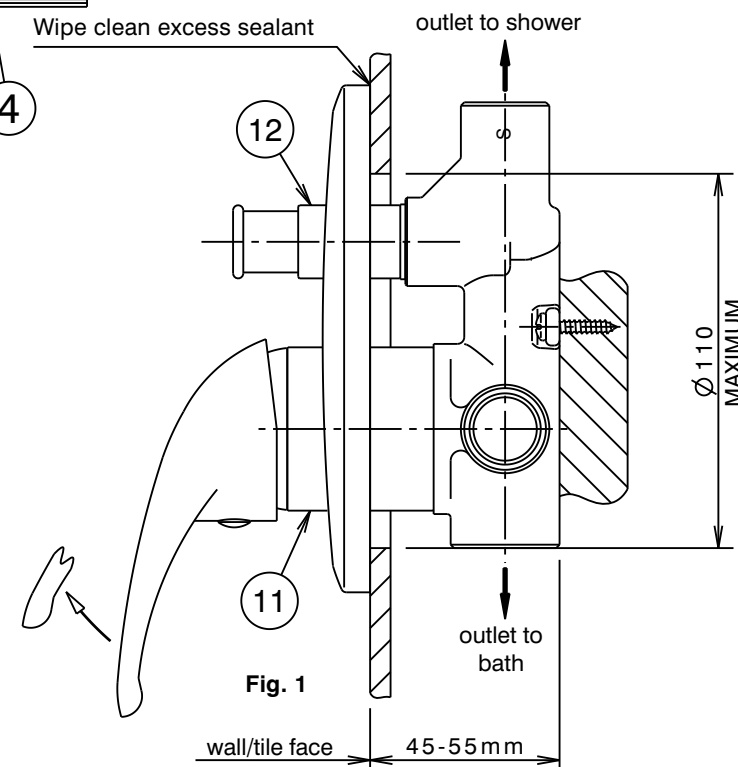

Fig. 1
Installation (Fig. 1)
Fit rubber seals (5) & (6) into cover plate (7). Slide cover plate evenly onto diverter sleeve (12) and mixer body (11), pushing firmly against the cover plate (7) until it contacts the wall/tile face & the sealant has formed a waterproof joint. Wipe clean any excess sealant from the chrome surfaces & the wall/tile face (See Fig. 1).
- 3) Fit handle (1) taking care that it is pushed fully onto cartridge stem, tighten screw (2) using the 2.5mm allen key (4). Fit indicator plug (3) position with red to the left.